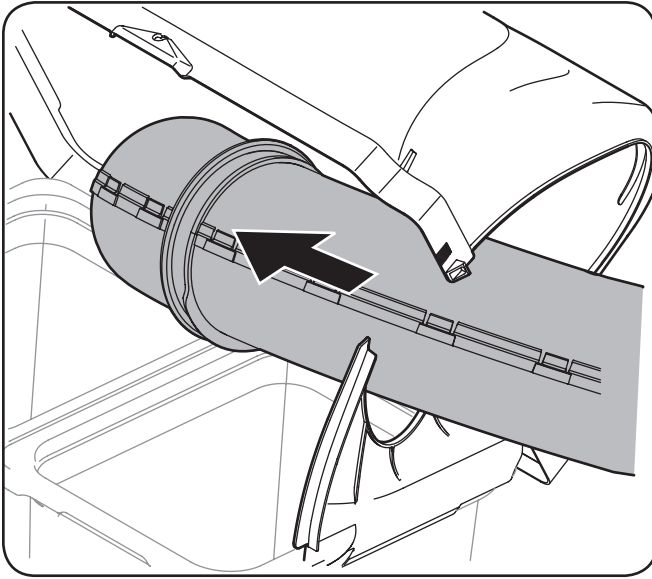

Figure 4-25
2. With the grass catcher cover open, install the upper discharge chute through the discharge chute opening, as shown in Figure 4-25.